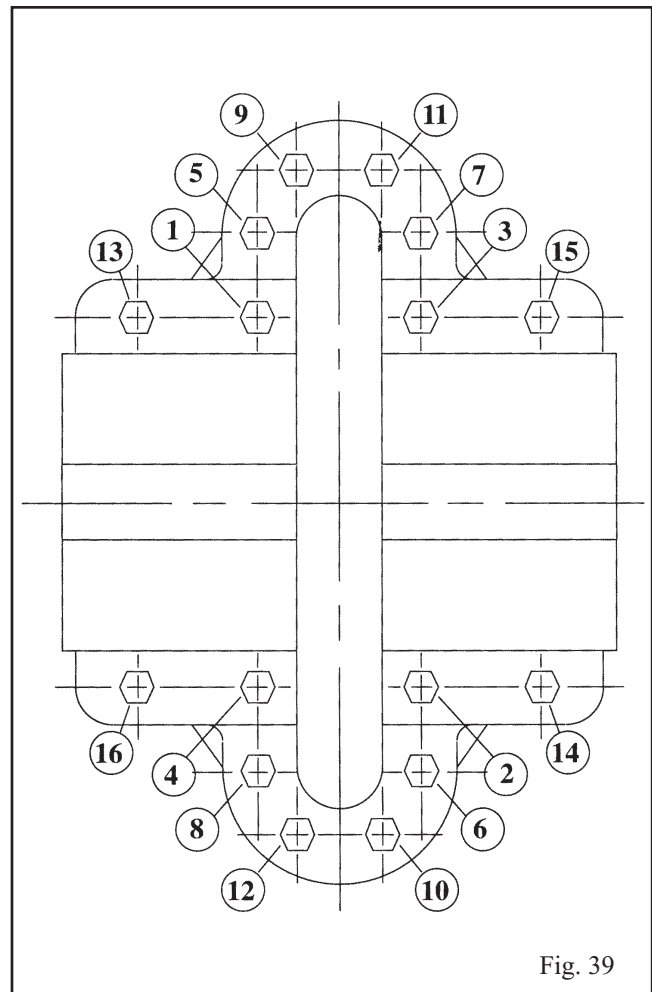

Fig. 39
24. Lower upper half casing (100) into place (See Fig. 28) and locate using the taper dowels (469G) and install casing main joint bolts (426 & 426A). The casing joint bolts should be tightened to the following torques: 300 ft-lb minimum for .75"-10 Ferry Cap Countr-bor screws (Grade 8), 400 ft-lb minimum for 1.0"-8 Ferry Cap Countr-bor screws (Grade 8). Bolt torquing pattern is shown in Fig. 39. The number of casing bolts varies with the size of the pump (See Fig. 23). Before tightening bolts, be sure taper dowels are seated properly in reamed holes.
27. Move upper half casing (100) towards lower half casing (100) using alignment rods located in lower half casing as guides.
29. Reinstall all main joints bolts, following tightening sequence illustrated in Fig. 39. The number of casing bolts varies with the size of the pump. (See Fig. 23) Torque bolts 300 ft-lb minimum for .75"-10 Ferry Cap Countr-bor screws (Grade 8) and 400 ft-lb minimum for 1.0"-8 Ferry Cap Countr-bor screws (Grade 8).